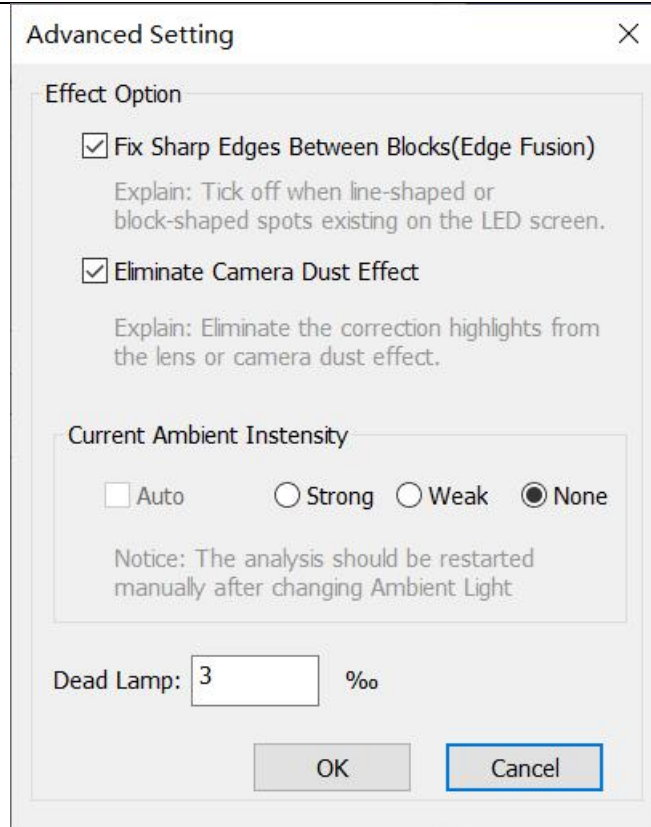

Fig. 6-2 Effect Setting-2
b.CCM camera,the advanced setting dialog cabinet is as shown in Fig.6-2.